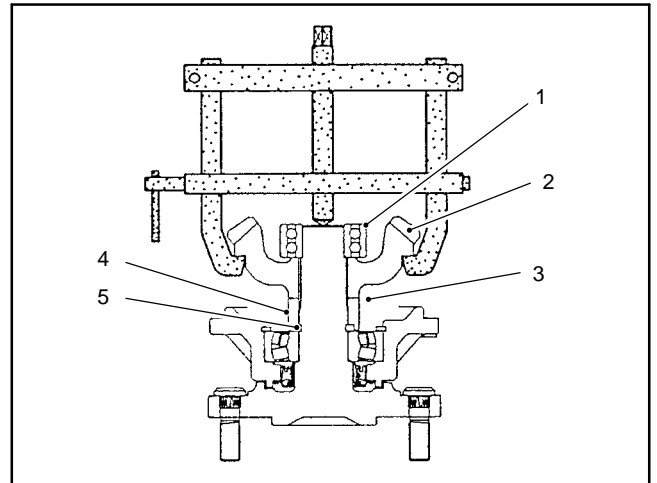

Figure 28
2. Use a bearing puller to remove the bearing and bevel gear as shown (Fig. 28).